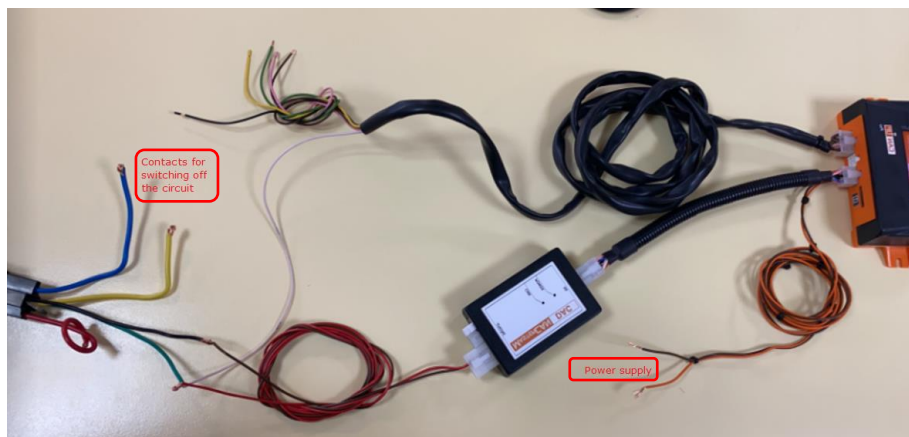

Figure 9 — Wires of the system connected to the corresponding vehicle wires
**7)** Connect power supply wires of the assembled engine blocking system to the power supply of the on-board network (battery), and the wires of the control contacts of the relay "inline" in the electrical circuit, which stops vehicle engine if disconnected. Insulate all exposed wire ends (see figure 9).